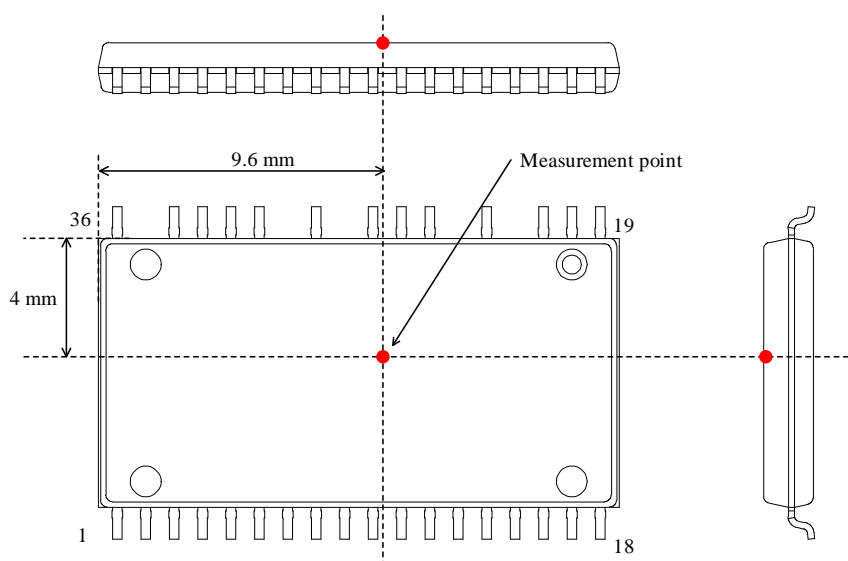

Figure 3-2. Case Temperature Measurement Point
(1) Refers to a case temperature at the measurement point described in Figure 3-2.